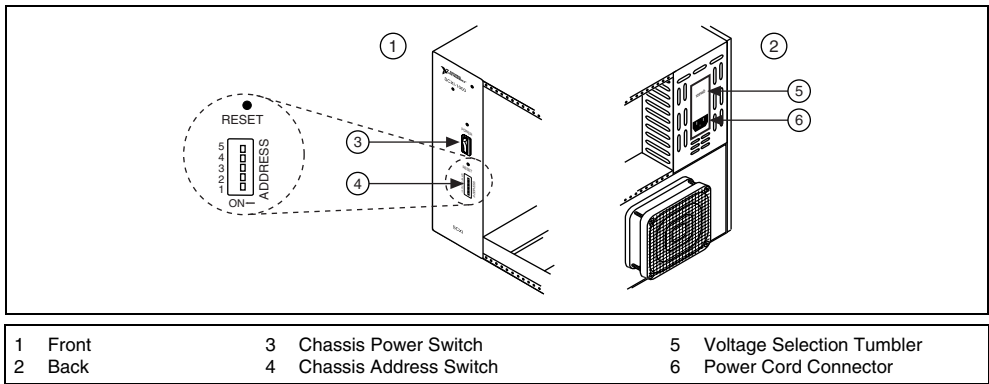

Figure 2. SCXI Chassis Setup
- If the chassis has address switches, set the positions to off. In Figure 2, all switches are shown in the off position.